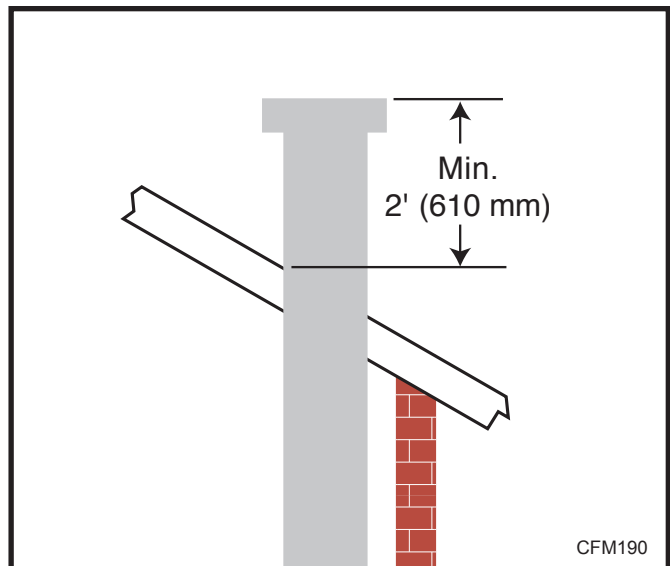

Fig. 35 Minimum termination to roof clearance.
- The minimum height of the vent above the highest point of penetration through the roof is 2' (610 mm). (Fig. 35)
10. Add additional vent lengths for proper height. (Fig. 35)